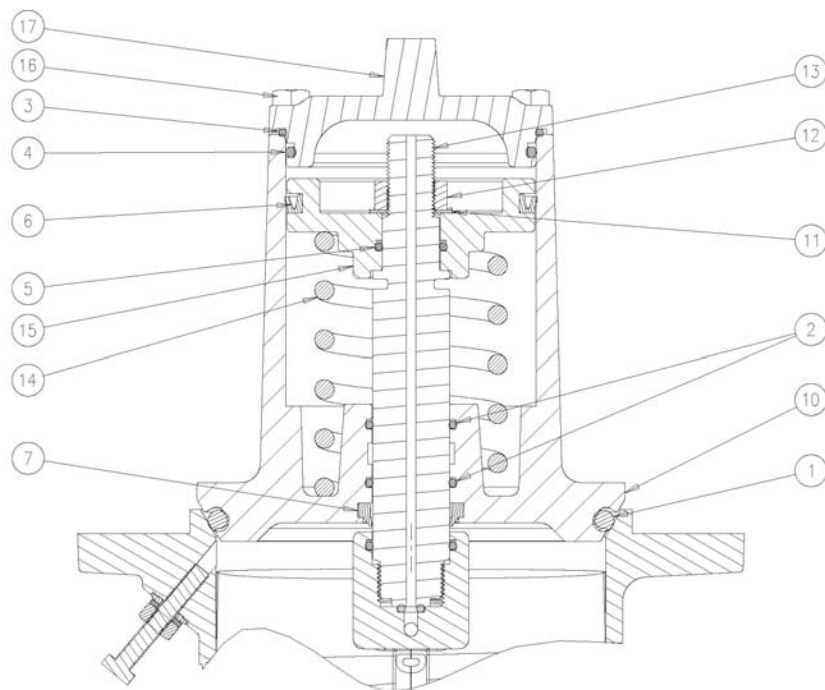

Figure 1 - Air Operated Internal Valve Section View
1. Review Figure 1 before disassembling the valve
2. Remove bolts/washers (16). This will allow the end cap (17) to be removed.
3. Remove nut and lock washer (11)(12). This will allow the piston (15), and poppet (10) to be removed from the shaft (13).
4. Remove wiper seal (7) and o-rings (1) & (2) from poppet (10) and replace with new o-rings from kit.
5. Generously apply lubricant (8) to wiper seal (7), o-rings (2), and shaft (13).
6. Reinstall the poppet (10) onto shaft (13) being careful not to cut o-rings.
7. Remove the u-cup seal (6) and o-ring (5) from the piston (15) being careful not to scratch the o-ring grooves. Replace with new seals from kit. Ensure u-cup seal orientation is correct when installing.
8. Generously apply lubricant (8) to o-ring (5), u-cup seal (6) and poppet bore (10). Re-install spring (14), piston (15), and washer/nut (11)(12). Tighten nut (12) until piston (15) is fully seated onto shaft (13).
9. Remove o-rings (3)(4) from end cap (17), being careful not to scratch o-ring grooves, and replace with new seals from kit.
10. Apply lubricant (8) to end cap o-rings (3)(4). Re-install end cap (17) and securely tighten bolts (16).